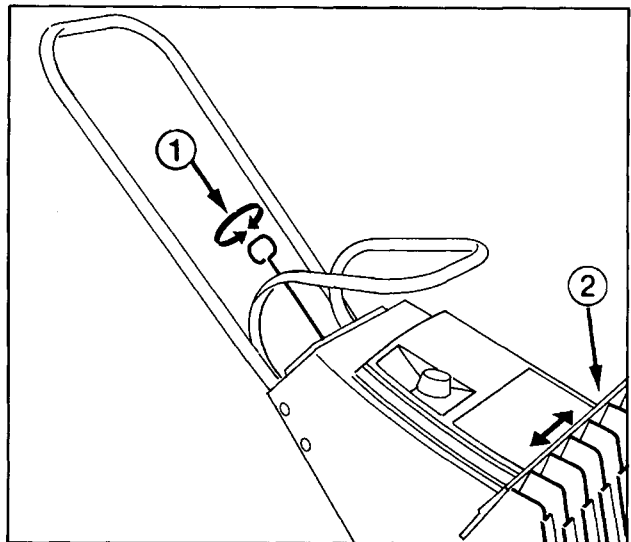

Fig. 5
1. **ADJUSTING VANES** (Fig. 5) — Keep vanes in vertical position for most efficient snow throwing. However, snow can be discharged left or right by simply rotating vane control. Store snowthrower with vanes in vertical position.